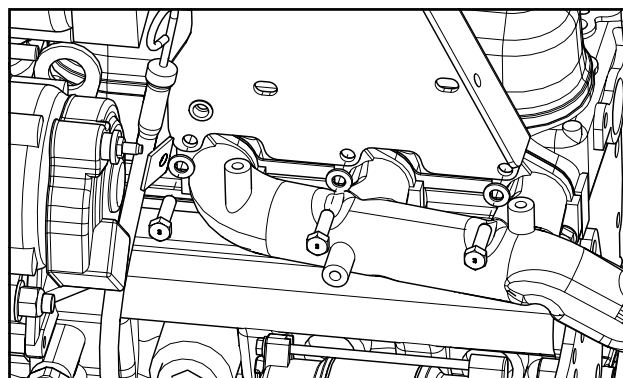

Fig. 2.14 (Upper Aux. Alternator Bracket & Hardware)
2.14 Fasten the upper auxiliary alternator bracket to exhaust manifold as shown in Fig. 2.14. Finger tighten at this time.